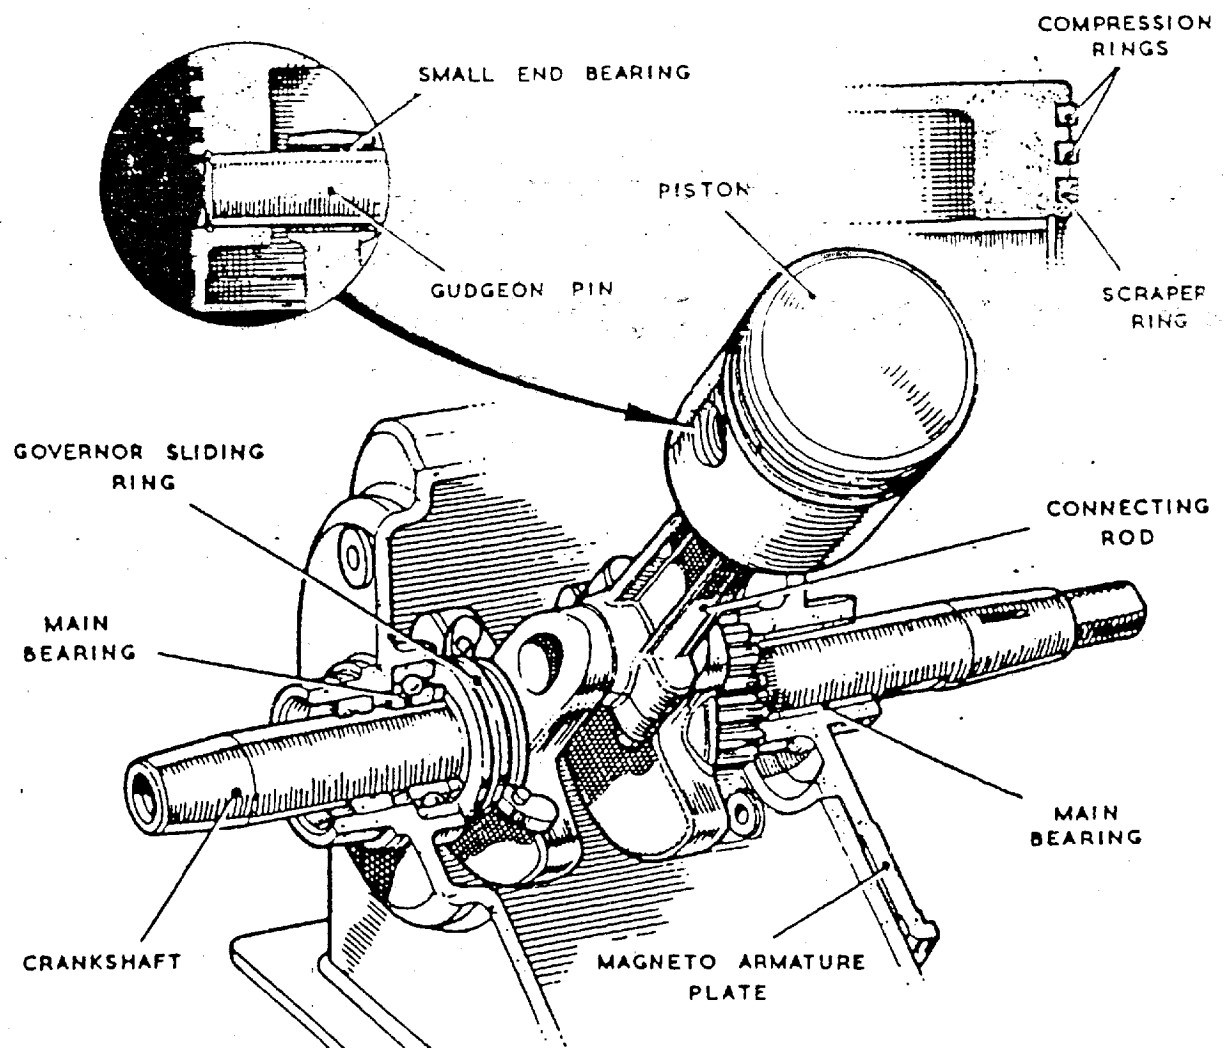

Fig. 3. The Piston, Crankshaft and Connecting Rod.
1.3. DETAIL DESCRIPTION OF THE ENGINE; MOVING PARTS Fig.3